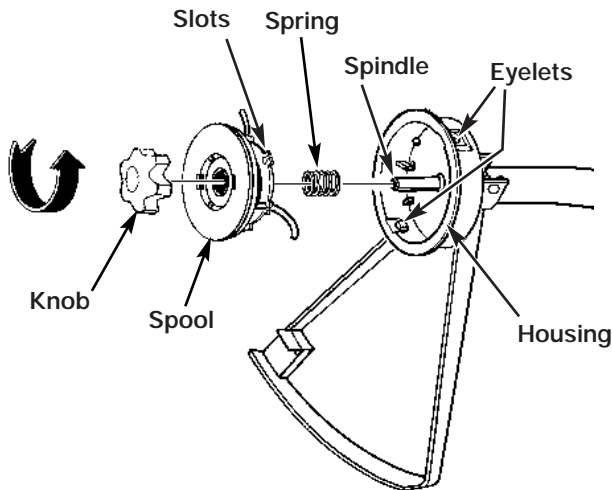

Fig. 14
1. Turn the knob counterclockwise to remove it (Fig. 14).
7. Install the spring over the spindle. Insert each end of the line through an eyelet in the housing (Fig. 14).